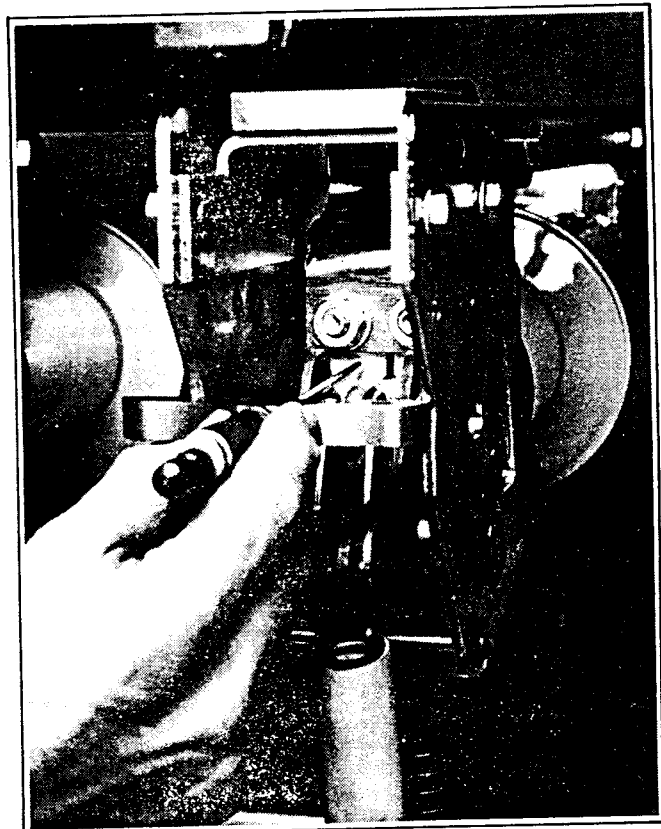

Figure 21. Erosion and Travel Measurement
Siemens vacuum breakers are provided with a factory reference dimension for each interrupter. This factory dimension is recorded on a decal in proximity to the interrupter, along with the serial number of the interrupter. The reference dimension is measured from the outer edge of the moving pole support (Figure 4, Item 40) to the flat surface of the terminal clamp (Figure 4, Item 29.2), with the breaker in the closed position. To determine the amount of contact wear, measure this distance with depth micro-meters or a caliper (breaker closed). If the measured dimension exceeds the factory dimension by more than 0.090 inch, the interrupter should be replaced. See Figure 21.
- Step #3** Measure the distance from the outer edge of the pole support to the flat surface of the terminal clamp as described and shown in Figure 21. Record this measurement.